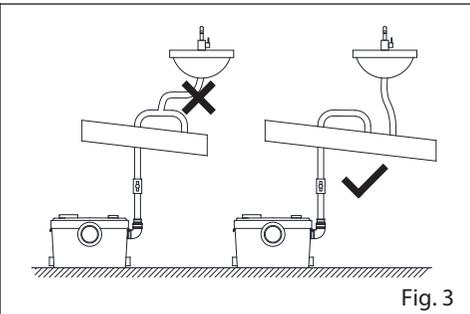

Fig. 3
- b. The discharge pipe from the macerating system shall be an independent line as no other drain pipe shall tie into it. (Fig 3)